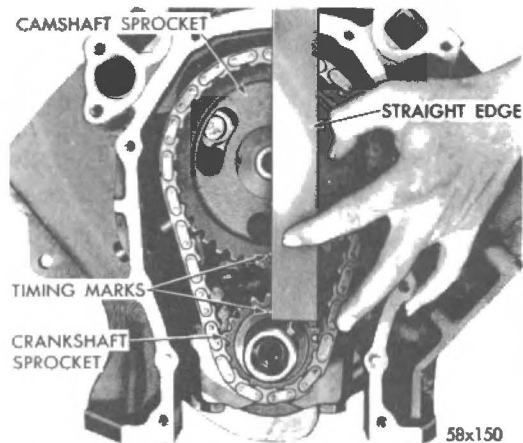

Fig. 13 Inspecting Alignment of Timing Marks Using a Straightedge (Typical)
(1) Place both the camshaft sprocket and crankshaft sprocket on the bench with the timing marks in the exact imaginary centre line through both camshaft and crankshaft bores.
(2) Place the timing chain around both sprockets.
(3) Turn the crankshaft and camshaft to line up with the keyway location in crankshaft sprocket and the dowel holes in the camshaft sprocket.
(4) Lift the sprockets and chain (keep sprockets tight against the chain in position as described).
(5) Slide both sprockets evenly over their respective shafts.
(6) Use a straightedge to check the alignment of the timing marks. (Fig. 13).
(7) Install the washer and camshaft sprocket bolt and tighten to 35 lbs/ft. torque.